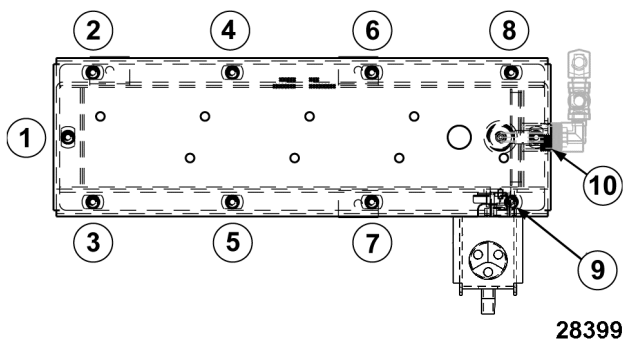

Fig. 53
10. Reassemble parts removed in reverse order of removal. Tighten heating element screws evenly to 70 in-lbs. Follow tightening sequence pattern as shown in Fig. 53 (top view of heating element shown).